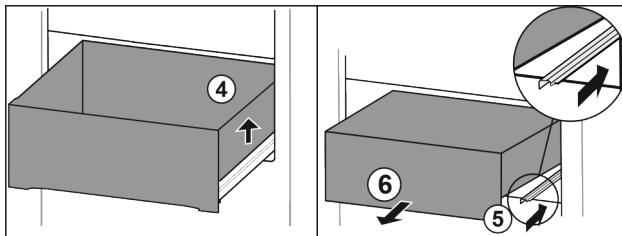

Fig. 127
- Lift drawer on the right. Fig. 127 (4)
- Insert right rail. Fig. 127 (5)
- Remove drawer to the front. Fig. 127 (6)